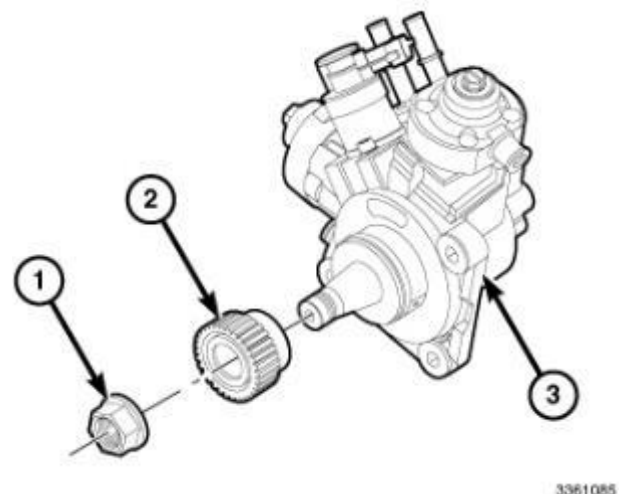

Figure 142 – Gear Removal
- 80. The use of Puller 1023 or a commercially available gear puller is required to remove the fuel injection pump gear (Figure 142).
NOTE: The use of Puller 1023 or a commercially available gear puller is required to remove the fuel injection pump gear (2) (Figure 142).